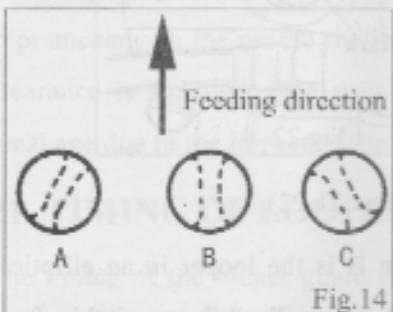

Fig.14
(1) To adjust the stitch length, turn the stitch dial to the number. The value of graduation is shown in millimeter (mm).
(2) If need to change the stitch length, press down the reverse feed lever while turning the dial.
(3) Max. stitch length is 8mm; Min. stitch length is 1.4mm.
(4) When press down the reverse feed lever, the stitch become tight-needle stitch(1.4mm). This function often be used in beginning and seaming or reinforce sewing.
(5) The machine can not reverse stitching.
12. INSTALLING THE NEEDLE(Figs.14,15)
When the thread is chemical fibre thread, the direction of the needle eye should not be in that one, as shown in Fig.14(C).